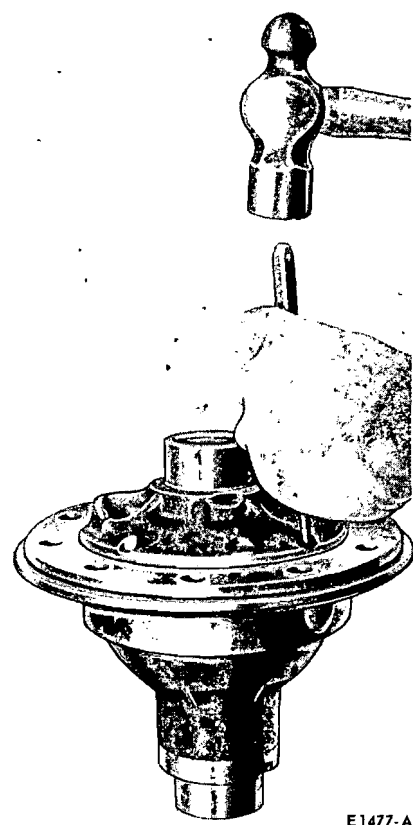

FIG. 20—Differential Pinion Shaft Lock Pin Removal
3. With a drift, drive out the differential pinion shaft lock pin (Fig. 20).
5. Start the pinion shaft into the differential case. Carefully align the shaft lock pin hole with the pin hole in the case. Drive the shaft into place and install the lock pin (Fig. 20).